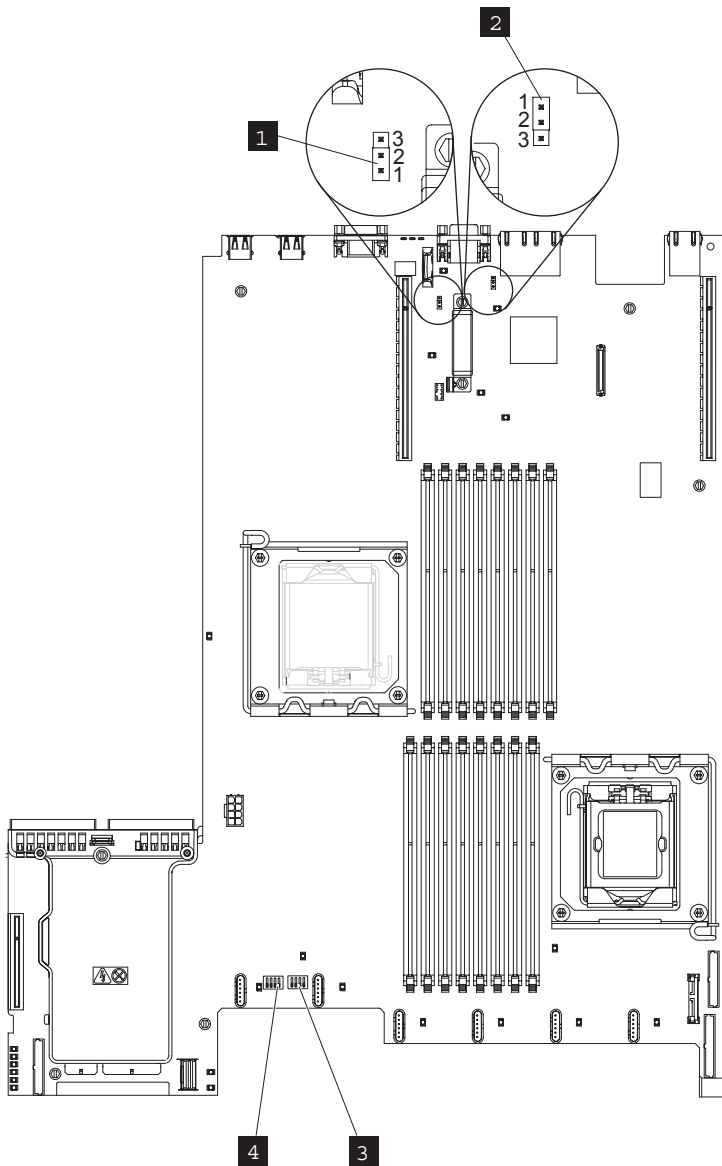

Figure 288. Setting jumpers on the system board
1. Unpackage the new system board and set its jumpers appropriately, as shown in Figure 288 on page 286.